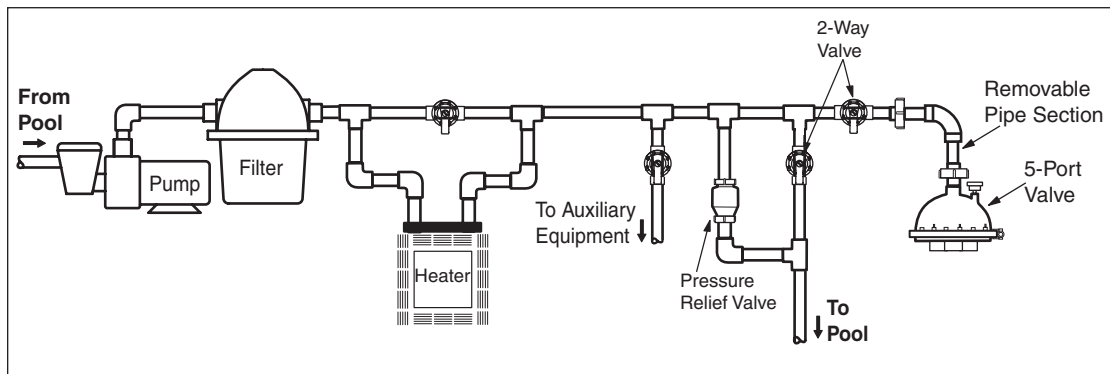

Figure 4. Example of a Plumbing Setup
Use the second union to install a removable section of pipe immediately before the valve to provide service access to the valve dome strainer (see Figure 4).
1. Unscrew the two (2) union nuts and remove the pipe section located in front of the water valve. (see Figure 4).
3. Install the five (5) small o-rings, wet them if necessary to help them stick but do not lubricate. Check positioning of large o-ring in groove of bottom plate.